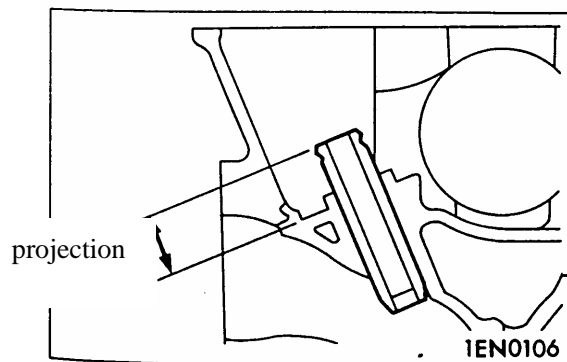

Fig.4-86
- (1) Using a press, push the valve guide out toward the cylinder block side.
- (2) Rebore the valve guide hole in the cylinder head to match the oversize valve guide that is to be fitted, see Fig.4-86.